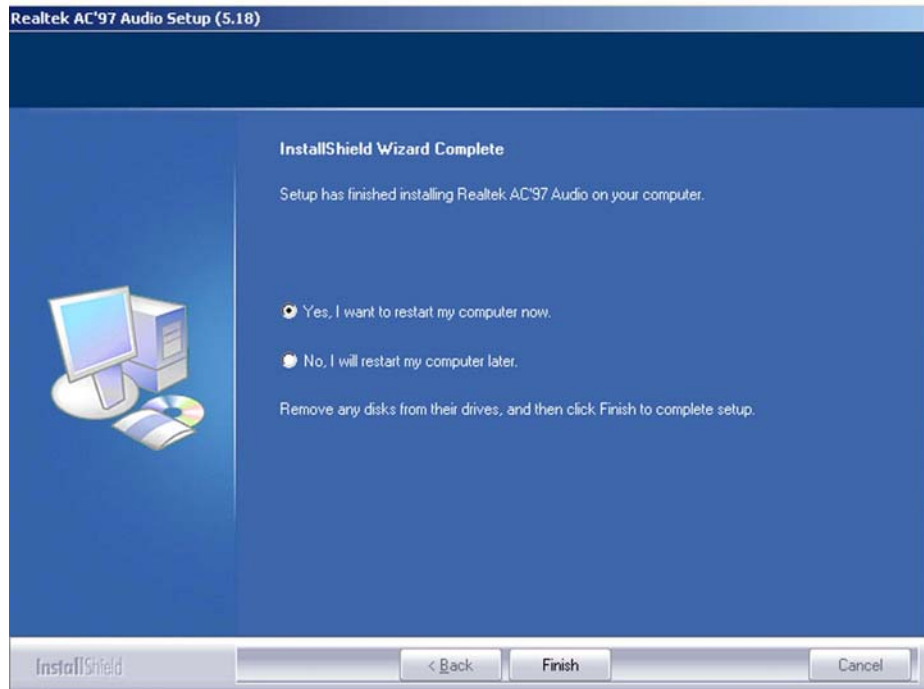

Figure 6-12: Audio Driver Installation Complete
Step 7: After the driver installation process is complete, a confirmation screen shown in **Figure 6-12** appears
- Step 8:** The confirmation screen shown in **Figure 6-12** allows user to restart the computer immediately after the installation is complete or to restart the computer later. For the settings to take effect the computer must be restarted. Once decided when to restart the computer, click the “**Finish**” button.